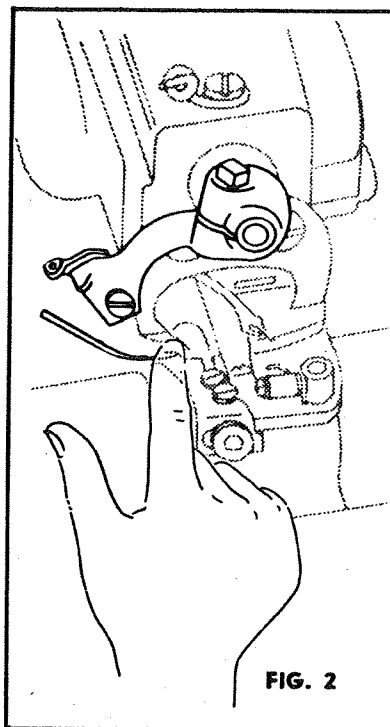
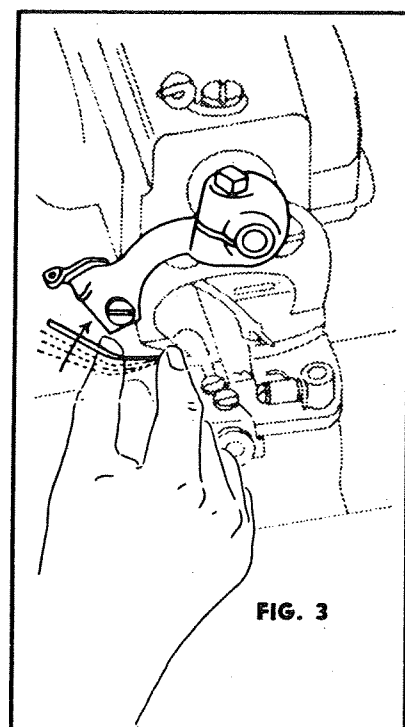

FIG. 2
FIG. 3
1. Place good new needle in groove of presserfoot and hold in place with right index finger (Fig. 2). With tilting motion of right thumb (Fig. 3), tilt shank of needle to right in between Needle Clamp (B) and Needle Lever (C) and into groove of Needle Lever.